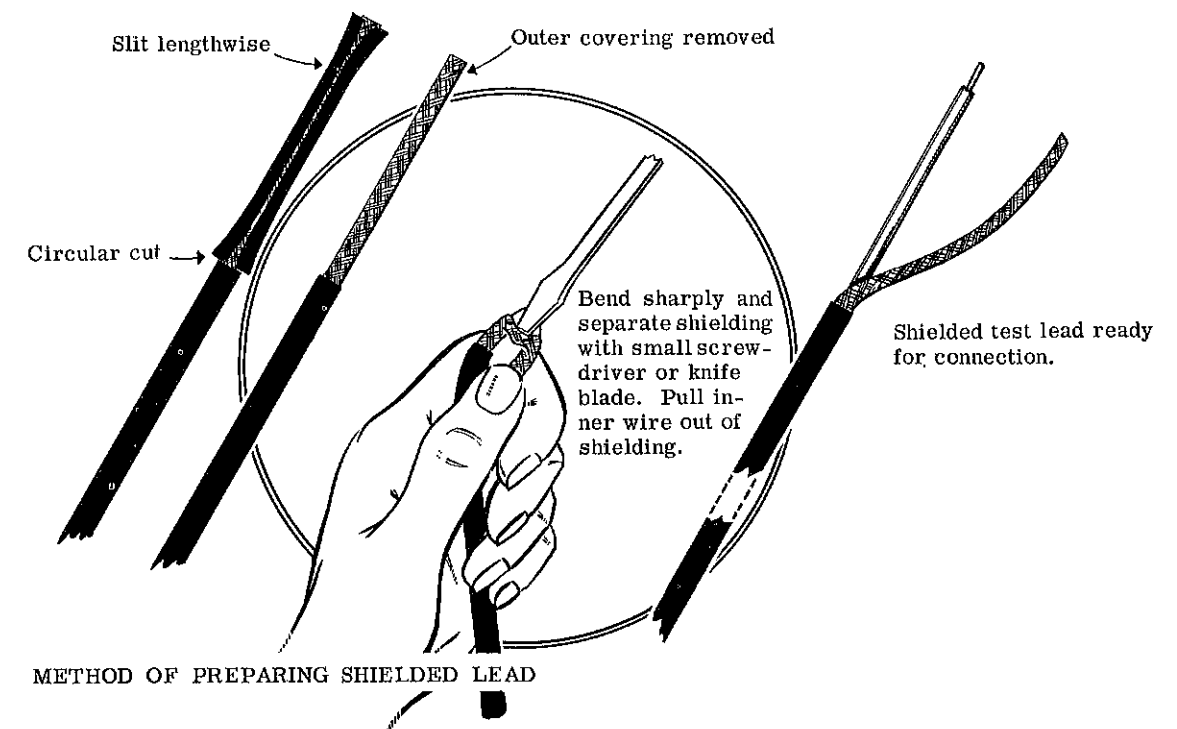

Figure 18
- ( ) Prepare the audio cable. Strip approximately 1" of outer rubber insulation from each end of the cable. At each end, bend the exposed shielding braid over and make an opening in it with a sharp pointed tool of some kind, such as an ice pick. Pull the insulated inner conductor through and strip away approximately 5/8" of insulation. Check with Figure 18.